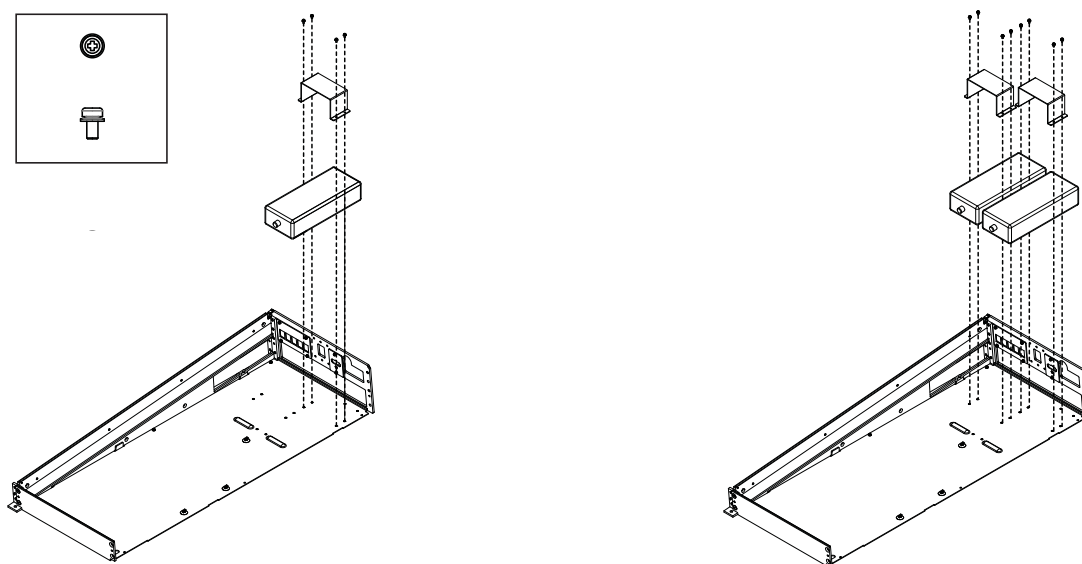

Figure 11. Installing one PSU and tie-down (shown at left) and two PSUs and tie-downs (at right). Cables and wall not shown.
- 4 Secure PSUs with the tie-down brackets (one bracket with fasteners is included in each Chassis kit) as shown in Figure 11.